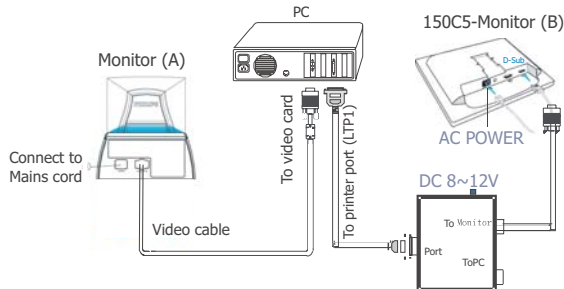

Fig. 3
NOTE: You can use A/D alignment kits (12NC: 3138 106 10079) to perform this work also, the connection as shown in Fig. 3. All the perform steps are same as DDC2BI\_ISP TOOL.
- Step 1 : Make a folder in your PC as shown in Fig. 3.